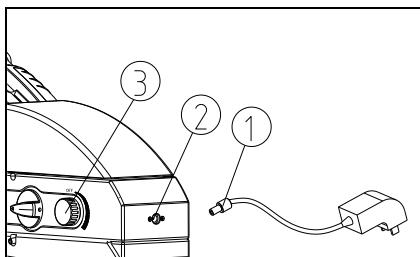
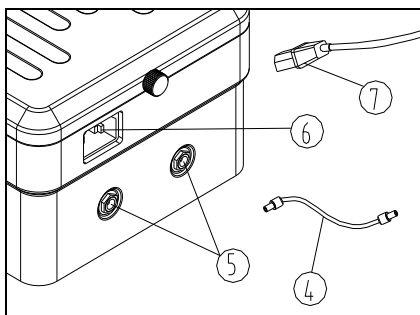

Fig 36
Fig 37
a) Transformer power supply. First insert one end of transformer (1) into LED fluorescent illuminator socket (2). Then insert the other end directly into electric outlet. (See Fig.36)
★ Before connecting an external transformer, should rotate the light adjustment knob (3) to “OFF”. (See Fig.36)
(1) First insert one end of the power cable (4) into LED fluorescence illuminator power socket (2), then insert the other end into the battery pack output port (5) (can be connected to any output port). (See Fig.36, 37)
★ Before connecting the power cable, should push the switch of battery pack to “O” (OFF) and should rotate the light adjustment knob (3) to “OFF”. (See Fig.36, 37, 38)
(3) Charge the battery pack when it is low power. Connect the power cord (7) with the outlet and the interface (6) on the pack.
Keep the switch (8) to “I” (ON), the indicator (10) is orange when charging. It (10) becomes green and all the bulbs of light strip (11) lighten (the last bulb is red while others are green) after fully charged. (See Fig.37, 38)